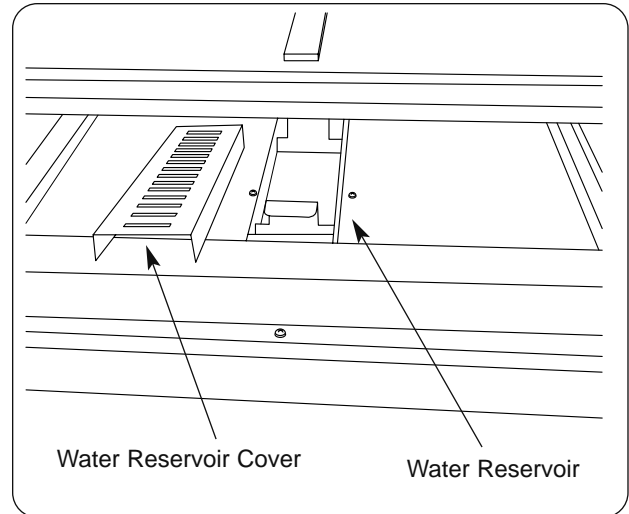

Figure 8. Water Reservoir
- Lift the reservoir cover up and off of the water reservoir. (See Figure 8.)
2. After the unit has cooled down, remove the water reservoir cover and water reservoir. Empty water reservoir. (See Figure 8.)